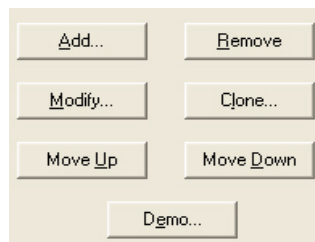

Figure 7-42 Ad Chain Control Buttons
- **Frames of Chain** - Displays a frame by frame list of the chain of graphics and text frames that make up the complete message shown at the CAT. The Frames of Chain control buttons allow you to place, rearrange, or delete individual frames within the advertising chain. Figure 7-42 shows the Frames of Chain control buttons.